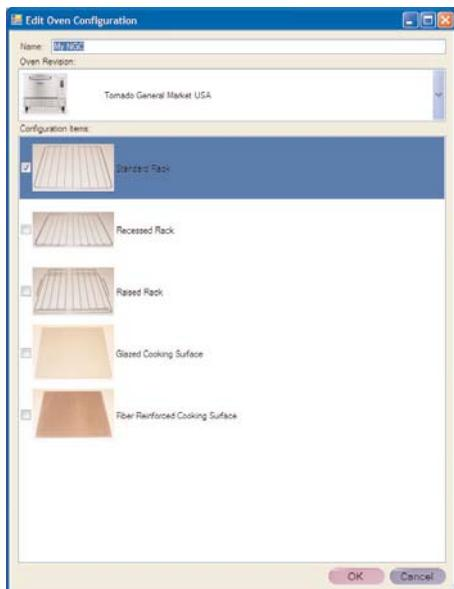

Figure 11: Select the Rack and Cook Surface
4. If desired, select your oven’s rack and cooking surface (Figure 11) for reference when developing menus. This setting is not required when creating a new oven type.
5. Enter the name of the new oven type. In Figure 11, the name is My NGC.